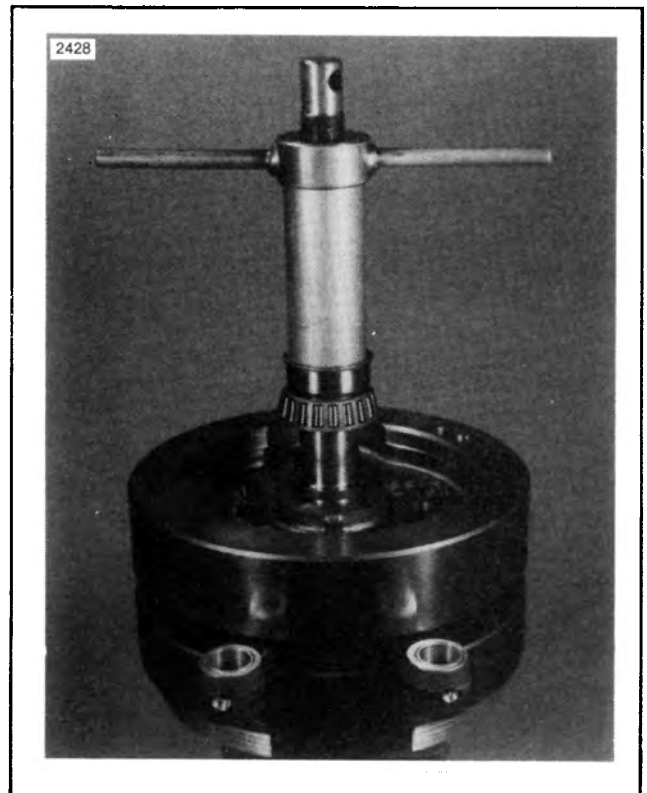

Figure 3-63. Pressing Bearing on Sprocket Shaft
- Install flywheel side outer race lock ring (12) in case. When properly installed, oil hole in lock ring groove will be centered in lock ring gap. Use arbor press and OUTER RACE PRESS PLUG, Part No. HD-97194-57, to press outer race parts into crankcase bushing one at a time. Press the races into the case, one from each side, with the largest diameter outward to match taper of bearings. Be sure each race bottoms on the lock ring.
- See Figure 3-63. Position flywheel assembly, sprocket shaft up, in flywheel fixture. Press bearing (15, Figure 3-42) on sprocket shaft using BEARING INSTALLATION TOOL, Part No. HD-97225-55. SPROCKET SHAFT SPACER HD-24036-70 may be needed with BEARING INSTALLATION TOOL. Press the parts on using the sprocket shaft spacer as a pressing tool only.
- See Figure 3-63. Install the bearing inner spacer (10, Figure 3-42) and tool sleeve and press bearing against flange on flywheel using the tool